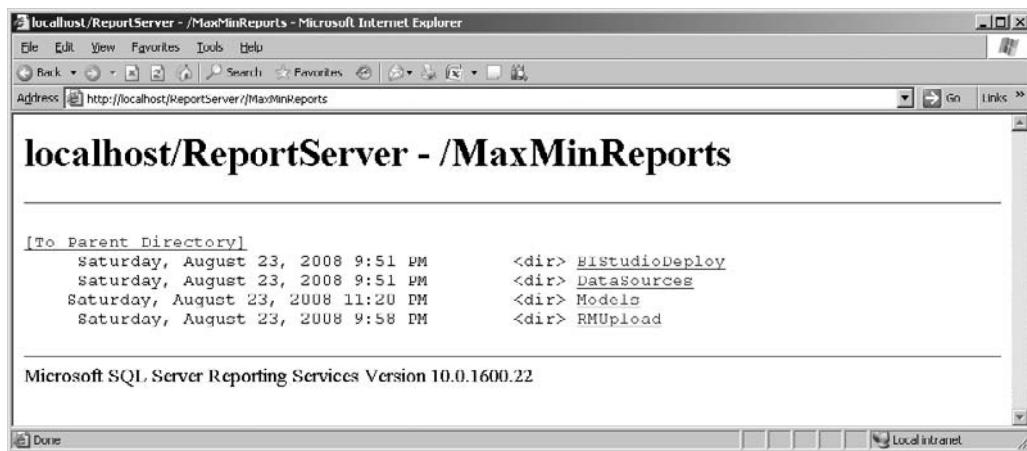

Figure 18-6 Browsing folder contents using URL access
2. Click Go. The contents of the MaxMinReports folder appears, as shown in Figure 18-6.